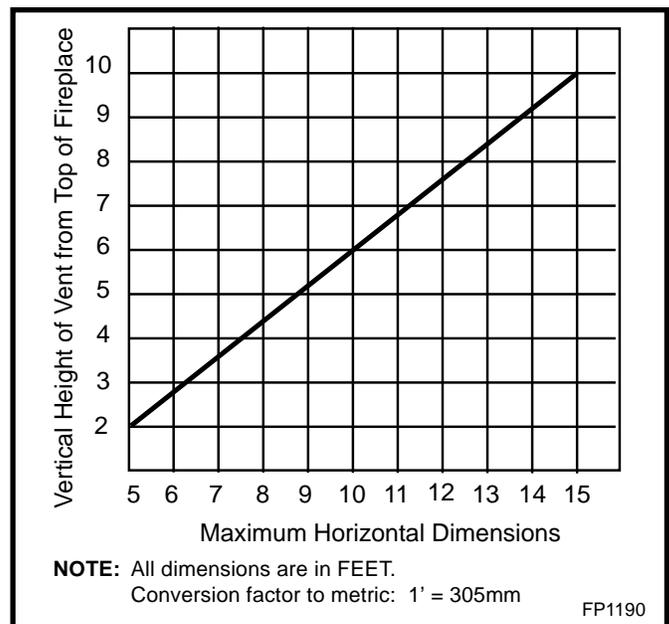

Fig. 39 Gravity vent diagram.
Installation of the DVRT43 fireplace provides an opportunity to heat either rooms on an upper level or adjacent rooms on the same level without the use of a blower. However, with the internal blower installed, there will be some increase in warm air movement to rooms serviced by the gravity duct. (Fig. 39 and Fig. 40)
1. Plan the gravity duct run first. Use the following graph (Fig. 39) to ensure that the installation meets the recommendations. There is a maximum number of three (3) elbows in a run, however, the run must never go in a downward direction, as this can trap heat in the gravity vent system. Be aware when designing the ducting system that elbows will restrict airflow. Minimize the use of elbows in any installation.